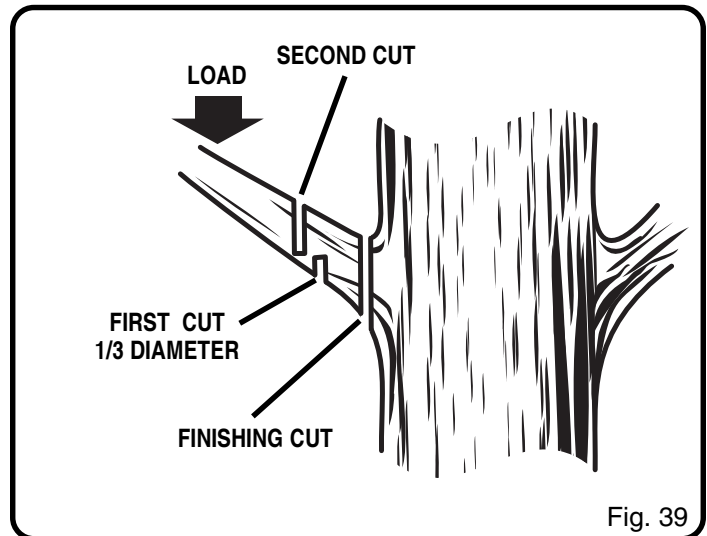

Fig. 39
See Figure 39.
- When pruning trees it is important not to make the flush cut next to the main limb or trunk until you have cut off the limb further out to reduce the weight. This prevents stripping the bark from the main member. See Figure 39.